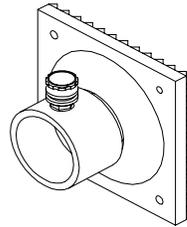

Figure 1-9. Swivel Base
f. **Swivel Base.** The swivel base (Figure 1-9) is similar to the rigid base but incorporates a swivel cap that can rotate 20° in any direction. The swivel base is utilized in situations where objects to be braced are not in direct alignment with each other or in situations where the possibility of slight load shifting may cause an alteration in the alignment.